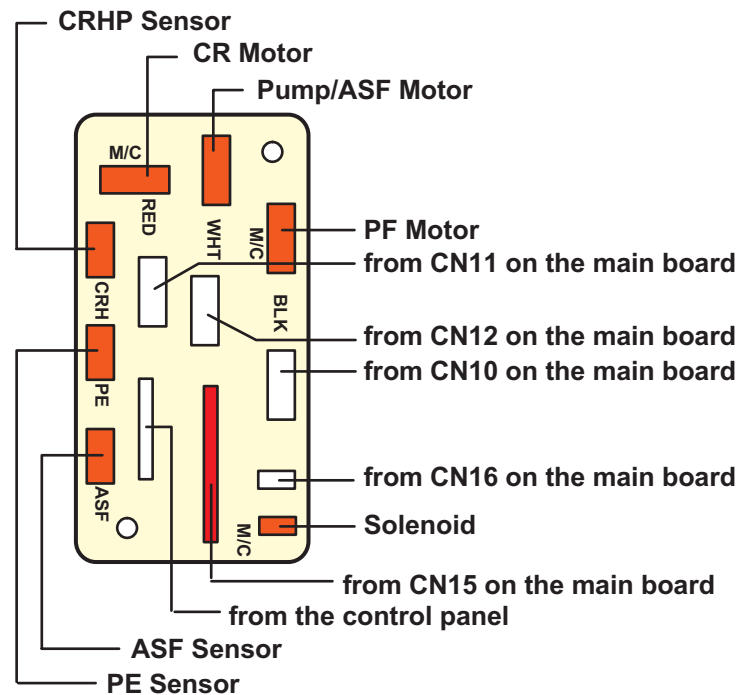

Figure 4-5. Connector Location
3. Disconnect the following connectors from the relay board. (The connectors to be disconnected are colored red in Figure 4-5.)
When assembling, be sure to connect the connectors properly as shown in Figure 4-5.
2. Remove all connectors from the relay board. (See Figure 4-5 when connecting them.)
2. Remove the remaining four connectors from the relay board. (See Figure 4-5 when connecting them.)